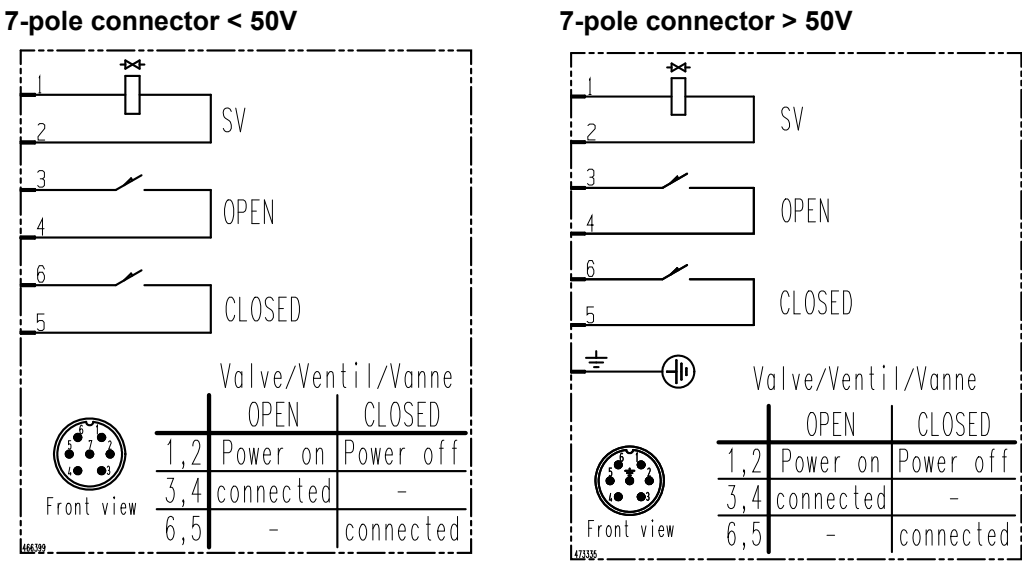

Figure 4-2 Wiring diagram
- Valve with pilot valve; see «Figure 4-2» on page 19.